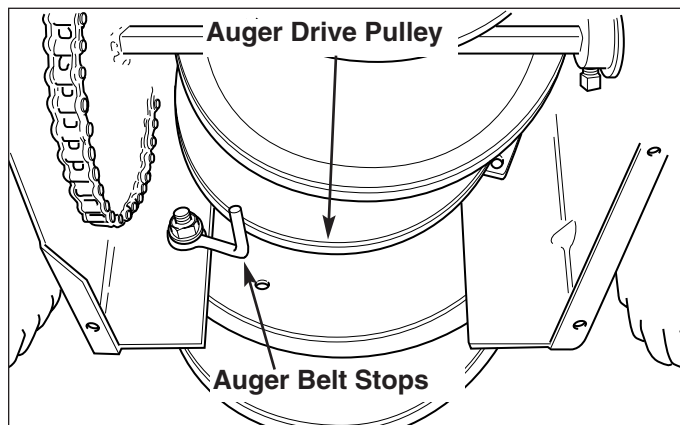

Figure 29. Auger Drive Pulley and Belt Stops
8. Loosen hex screw securing belt stop (Figure 29), and pivot the belt stop away from the pulley to permit removal of belt.